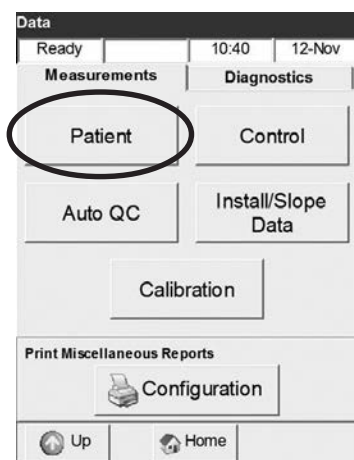

Fig. 5-17 Select Patient Report
2. Press **<Patient>** (Fig. 5-17).